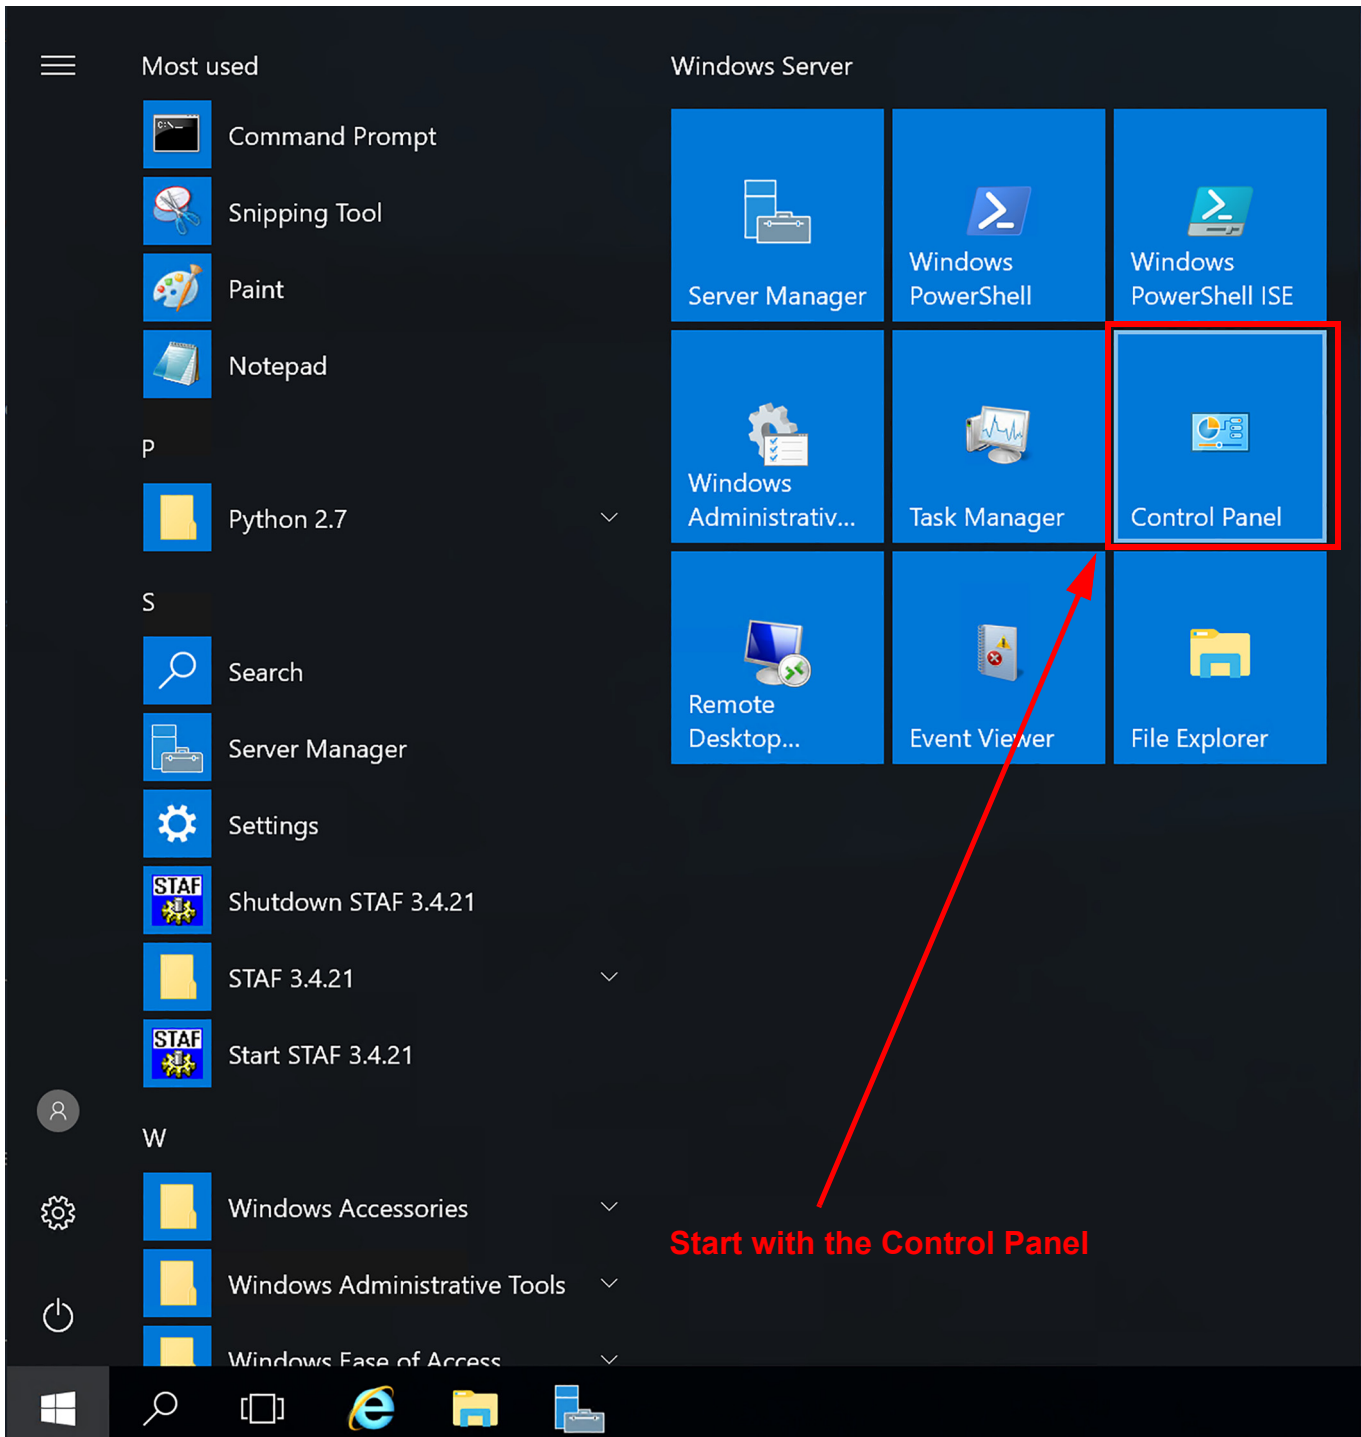

Figure 2.1: Windows Server 2016/2019: Start Menu -> Control Panel
1. Open the Control Panel. See Figure 2.1.